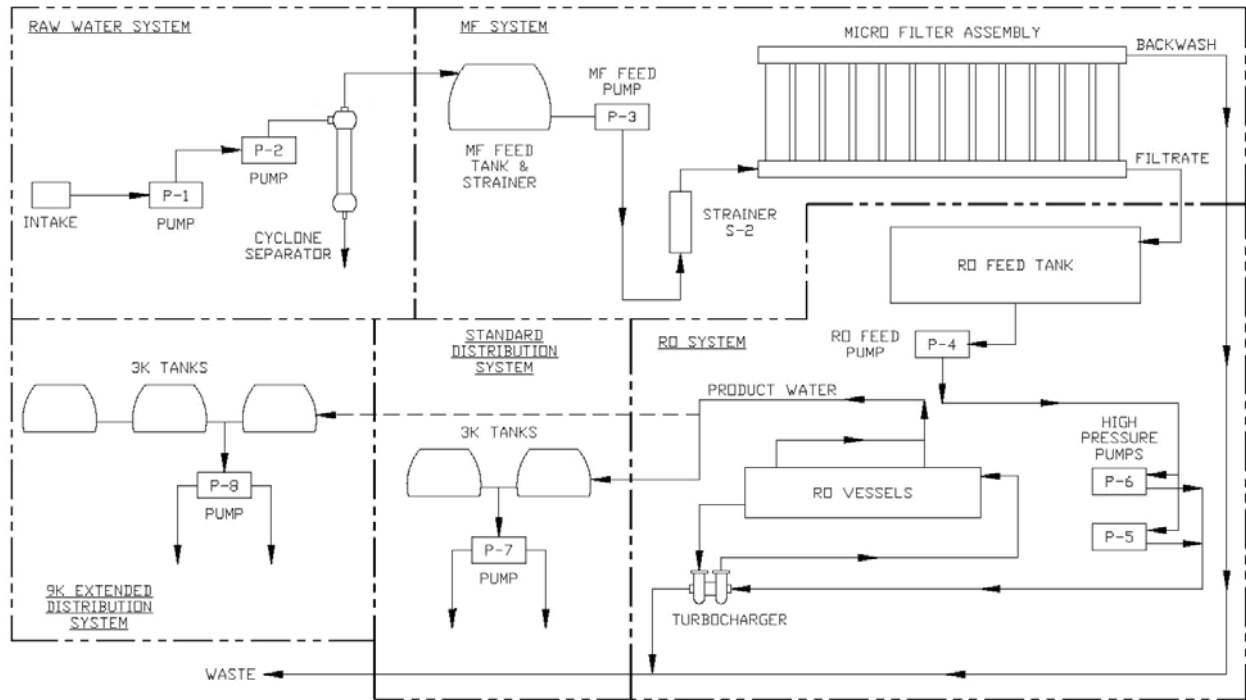

Figure 1. TWPS Flow Diagram.
The basic water flow through the TWPS is illustrated in Figure 1. Raw water is pumped from the water source and into a micro-filter (MF) feed tank. One or two pumps may be used depending on the distance and elevation change from the source to the MF feed tank. A cyclone separator is used at beach locations to remove sand and silt. Water is then pumped from the MF feed tank through strainer S-2 to the micro-filter (MF) assembly. Strainer S-2 removes material larger than 600 microns from the water stream. The MF assembly removes suspended solids (dirt) and microorganisms down to 0.2 microns. Filtered water, called "filtrate" flows from the MF assembly into the reverse osmosis (RO) feed tank. Every 15 minutes a "backwash" operation is automatically performed. The backwash operation forces air through the MF elements to blow accumulated dirt and material off the filter elements. The dirt is flushed out of the MF assembly to a waste outlet. Continuing with the water purification process, feed water is pumped from the RO feed tank to two high-pressure pumps. The high-pressure pumps force some of the water through membranes in the RO vessels. Salts are rejected by the RO membranes and the water that passes through the membranes exits the TWPS as product water. The product water is stored in 3000-gallon tanks. Water that does not pass through the RO membranes is discharged as "reject" water to the waste outlet. The reject water passes through a turbocharger which transfers energy from the reject water to boost the feed water pressure to the RO vessels. Product water is pumped from the 3000-gallon tanks as needed for distribution. Two 3000-gallon tanks are provided with the standard distribution system. Three additional 3000-gallon tanks and an additional pump are provided with the extended distribution system.